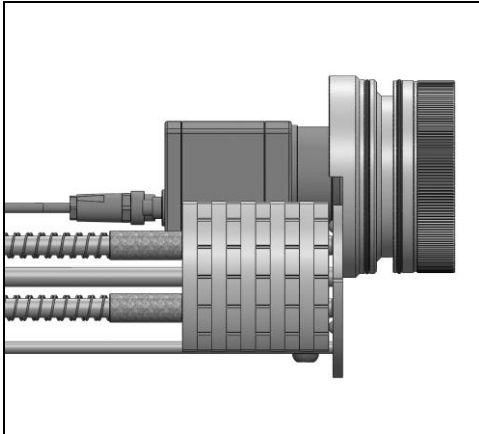
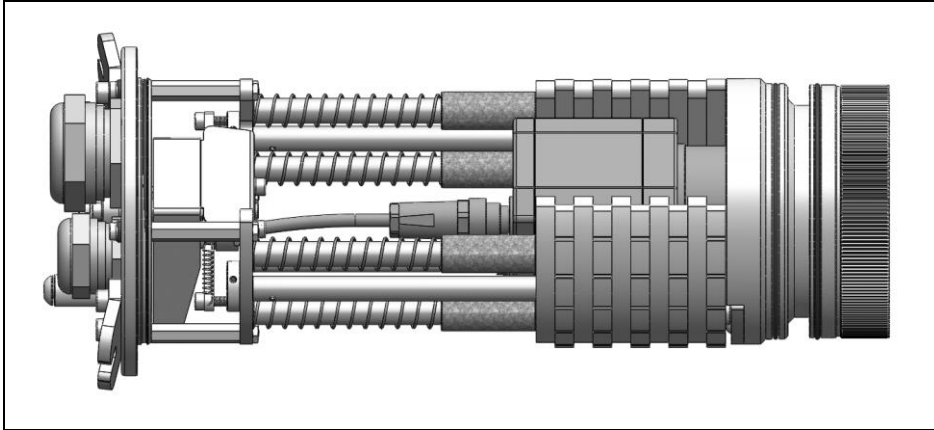

Figure 16: Inserting of the focusing unit
Figure 17: Focusing unit with camera
2. Seat the focusing unit or front part in the chassis (**Figure 16**). Position it as shown in **Figure 17**, by pushing it to the bottom.